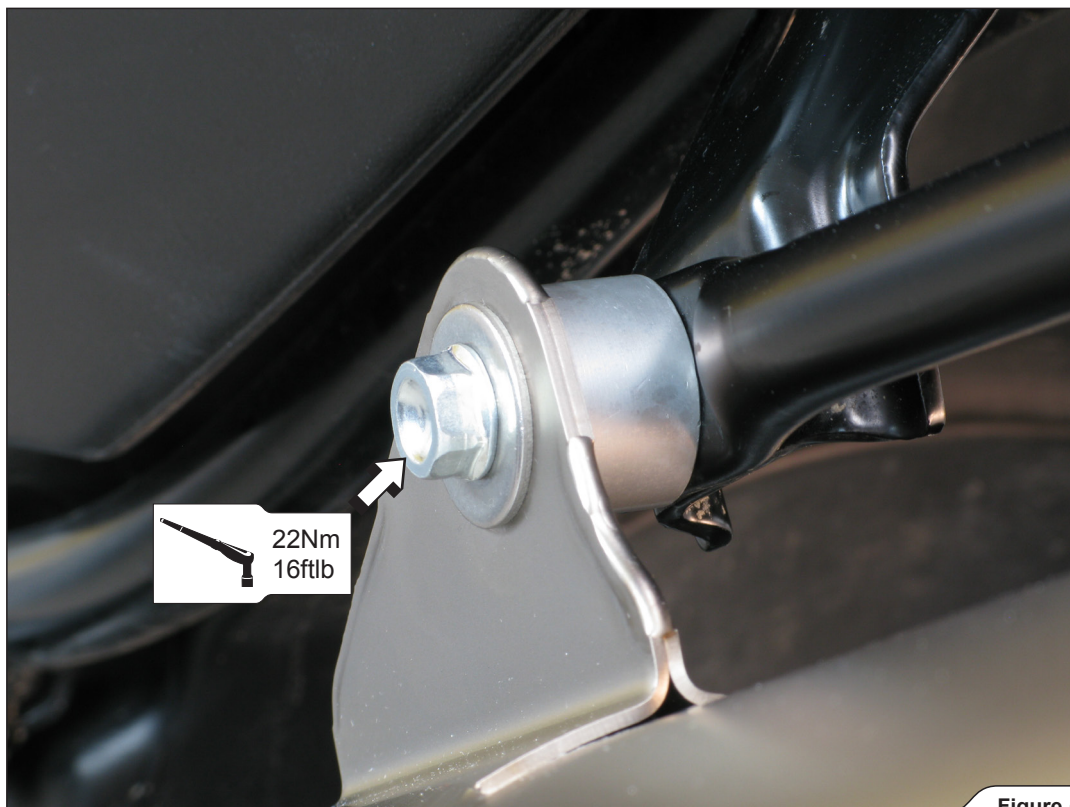

Figure 5
3. Align the muffler in respect to the motorcycle and tighten the muffler's bracket bolt and clamp to the specified torque (Figure 5, 6).